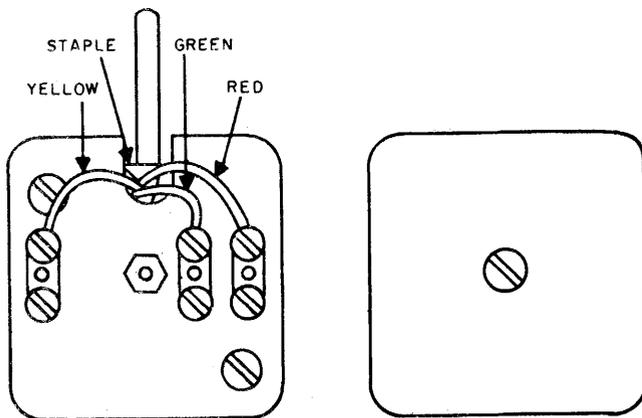

Figure 31. GTE AE D-150000-A Connecting Block Wired.
7.12 The GTE AE D-150000 and D-150002 blocks are also suitable only for GTE AE ring-band-equipped line cords, and require stapling of the station wire at the point of entry. In this case, the wire may be stapled before the block is mounted and the block positioned so that the entry slot covers the staple (Figure 31). Where the station wire emerges from a hole, position the block so that the entry slot is directly over the hole. The mounting holes will accommodate a number 8 screw.